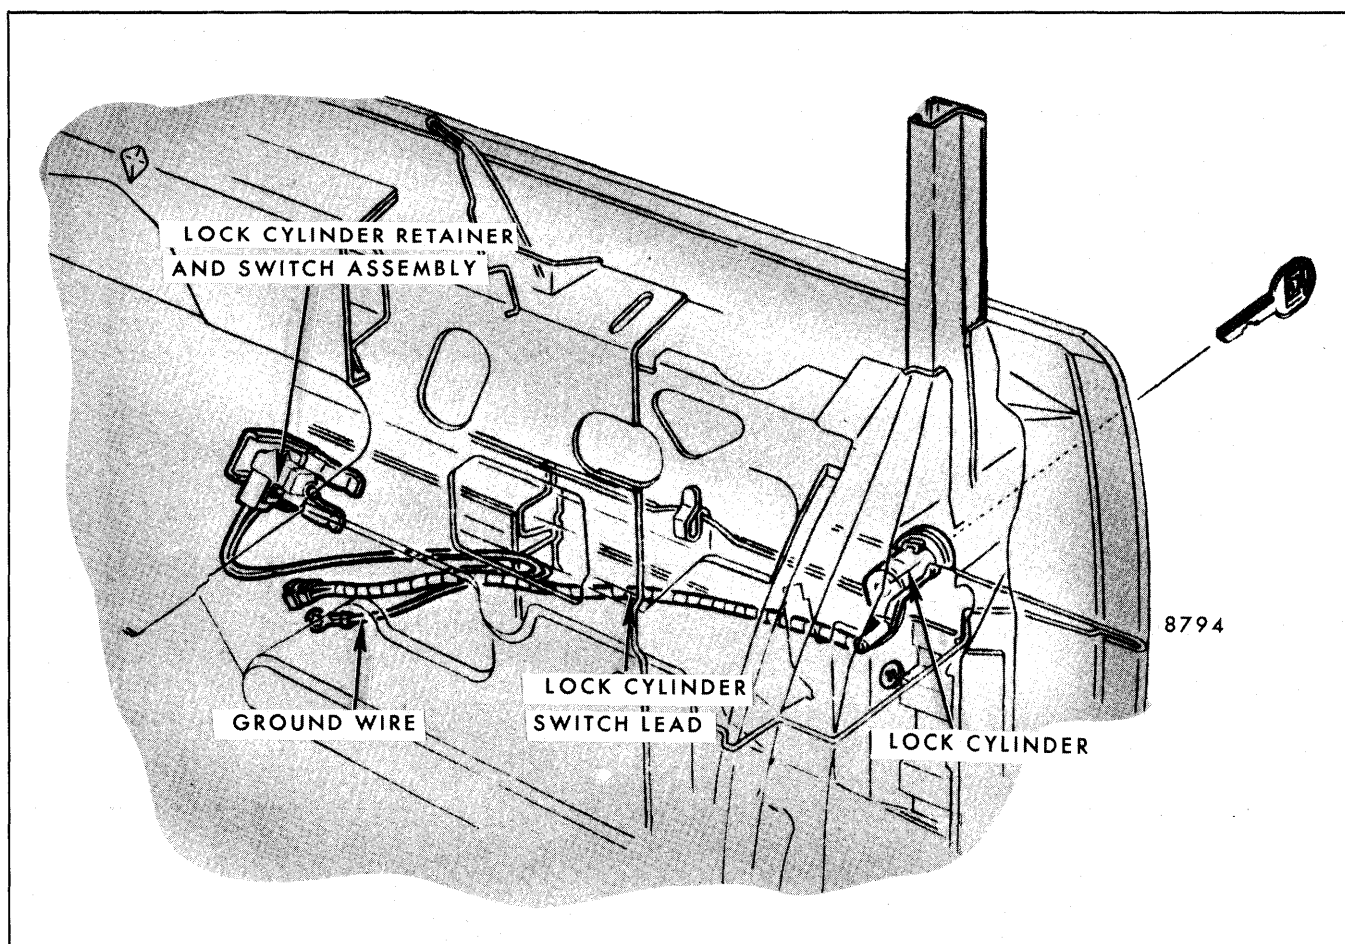

Fig. 5-31-Anti-Theft Door Lock Cylinder Assembly
1. Remove door trim panel, raise door window and detach inner panel water deflector. On styles equipped with anti-theft system disconnect wire at door guard beam (Fig. 5-31).